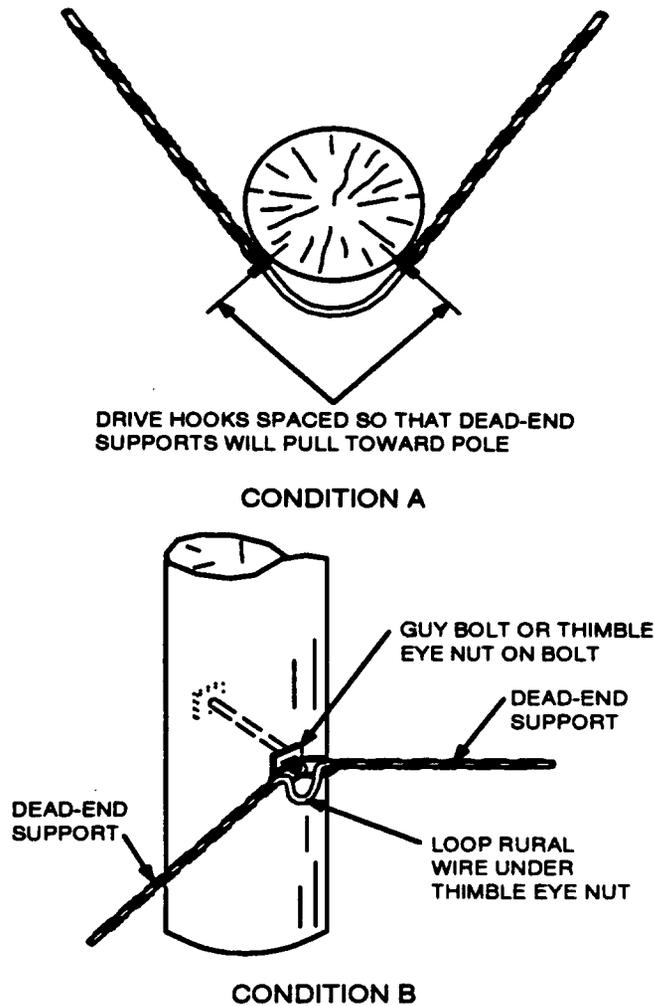

Figure 8. Poles—Corner with Over 3.05 meters (10 Feet) or Change in Grade Over 10 Degrees
- **CONDITION A** (Figure 8) shows attachments at outside corners where there is more than 3.05 meters (10 feet) of pull.
- **CONDITION B** (Figure 8) shows attachments at inside corners where there is more than 3.05 meters (10 feet) of pull.